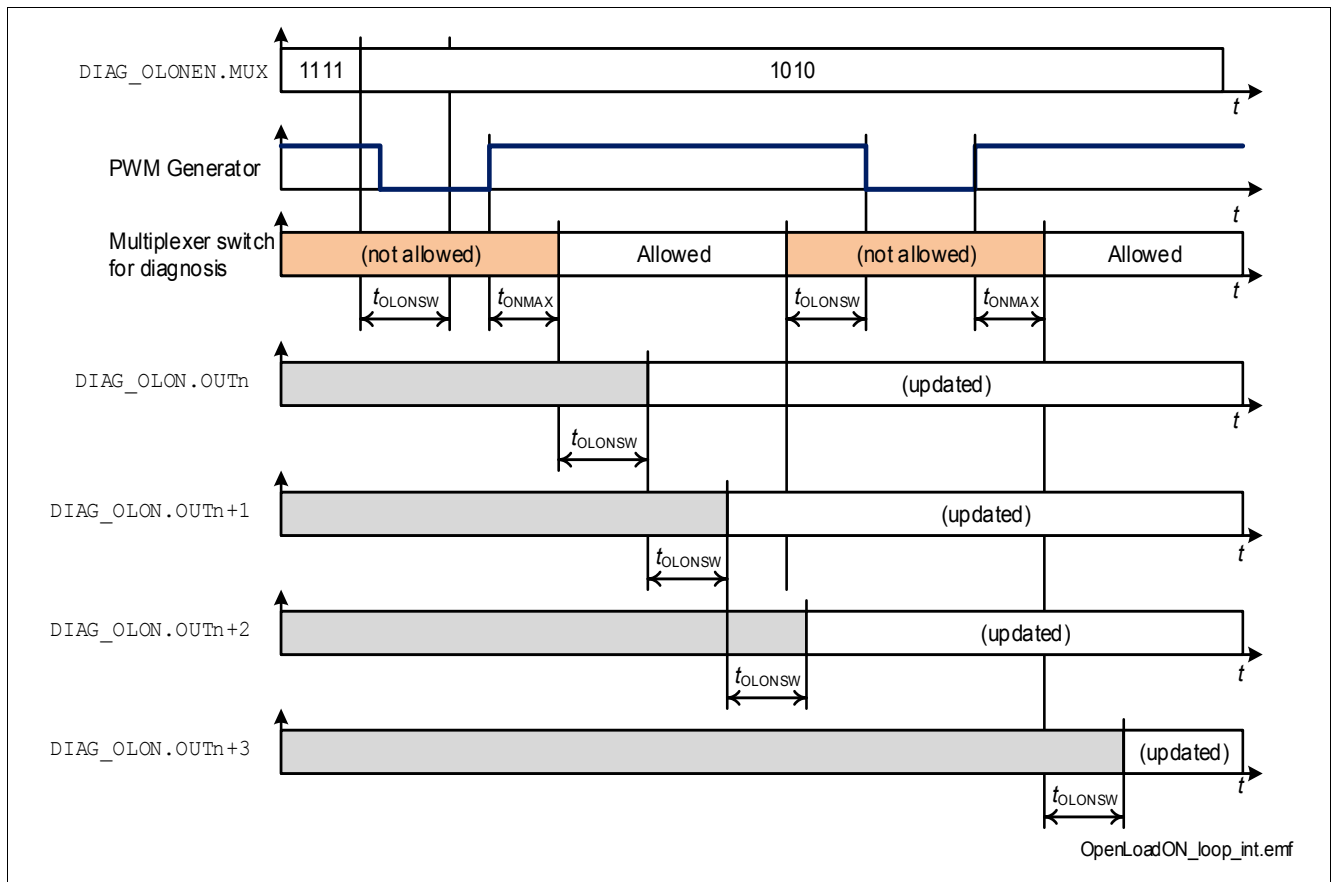

Figure 30 Open Load at ON timings (diagnosis loop - channels driven by internal PWM Generators)
**Figure 29** shows the timing in case of channels driven directly by micro-controller, while **Figure 30** represents the case with channels driven by internal PWM Generators.